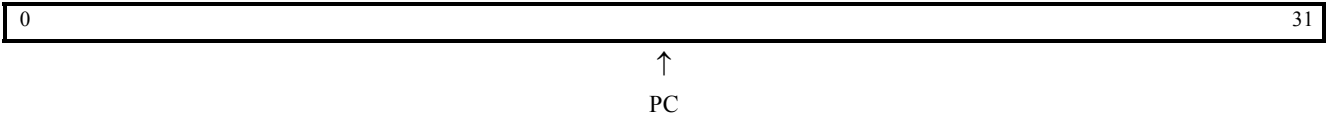

Figure 1-3: PC
The Program Counter (PC) is the 32-bit address of the execution instruction. It can be read with an MFS instruction, but it cannot be written with an MTS instruction. When used with the MFS instruction the PC register is specified by setting Sa = 0x0000. Figure 1-3 illustrates the PC and Table 1-8 provides a description and reset value.